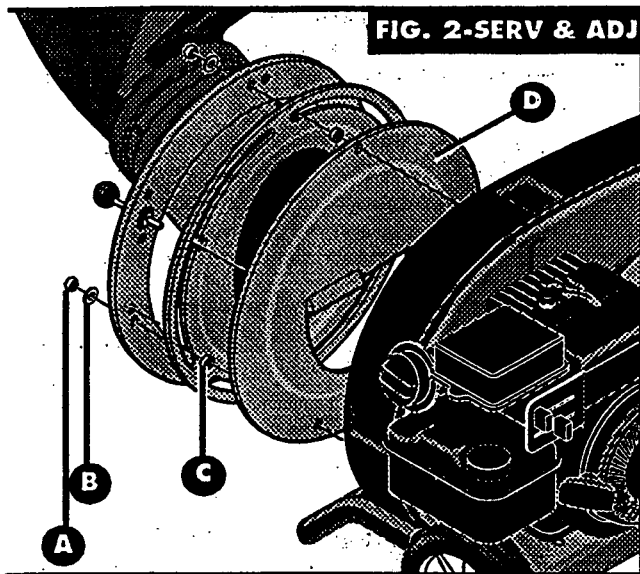

FIG. 2-SERV & ADJ
- Remove the three (3) hex locknuts (item A) and flatwashers (item B) from the housing studs and carefully separate the Hopper assembly from the remainder of the unit (See FIG. 2-SERV & ADJ.).
- Remove the three (3) bushings (item C) and stationary plate (item D) (See FIG. 2-SERV & ADJ.) **(NOTE:** When reassembling, make certain the opening of the stationary plate is toward the bottom of the unit and the offset, is facing toward the impeller assembly).